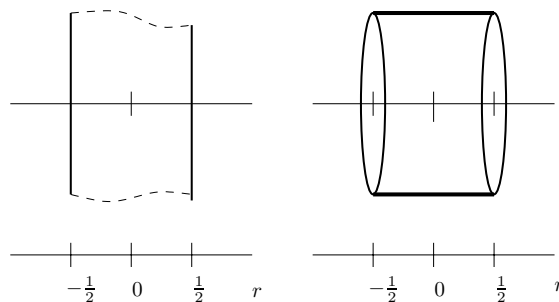

FIGURE 3. Slab and cylinder.
Exercise 2. If the pellet is a slab (or a cylinder with sealed mantle surface), Figure 3, then u depends only on the axial coordinate $r = x^* = x/L$ and (3) becomes